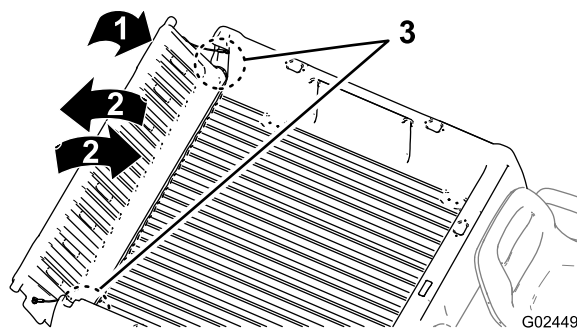

Figure 12
3. Use a short, shaking motion to rotate the tailgate back and forth several times (Figure 12).
2. Rotate the tailgate to approximately 45° position (Figure 12).